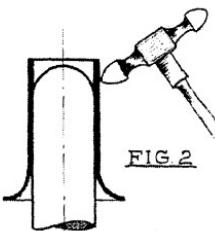
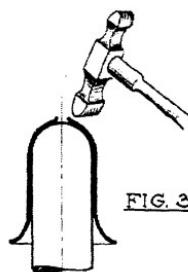

FIG. 2
FIG. 3
6. Shrink the other end of the tubing, starting as shown in Fig. 2 and finishing as shown in Fig. 3.